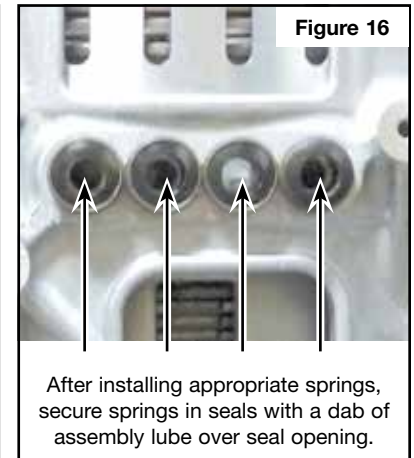

Figure 16
e. Install appropriate Sonnax springs into OE seals as described below, then secure springs by trapping them in seals with assembly lube (Figure 16).